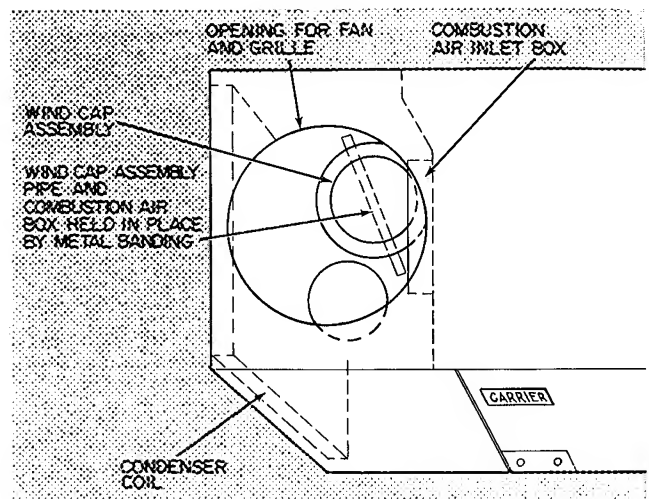
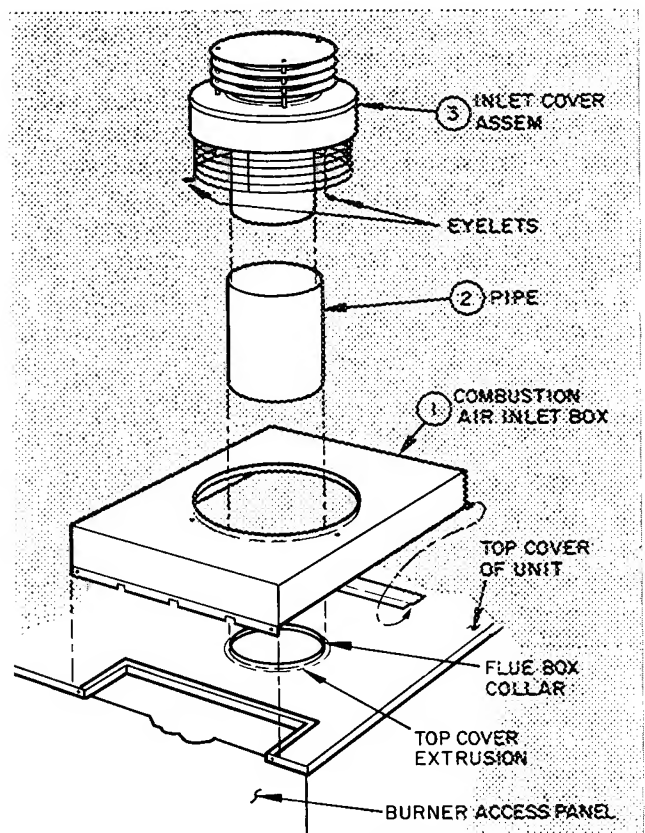

Fig. 2 — Removal From Shipping Location
Fig. 3 — Wind Cap and Air Box Assembly
\*Refer to Fig 2 for differences of these series
**Shipping** — Windcap and combustion air inlet box assembly of units 48DH,DL002 are shipped separately. For all other 48DH,DL units, the windcap and combustion air inlet box assembly is found in the compressor compartment. Refer to Fig. 2 and proceed to remove this assembly.
4. Mount item 1 (combustion inlet air box) on top cover of unit, with horizontal flange on box to slide into retaining clip on top cover. Tighten the S.M. screws on box.
**Assemble to Units** — To assemble the windcap and combustion air inlet box assembly to all 48DH,DL units, refer to Fig. 3 and proceed as follows:
1. Place item 2 at circular extrusion of top cover.